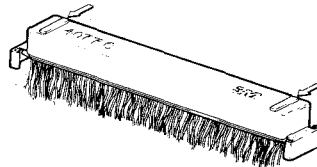

Fig. 45—Remove nipples from base of box.
5. To remove module from sealant box, release latches and remove nipple from base of box with snips or sheath knife. See Figure 45. Remove module.